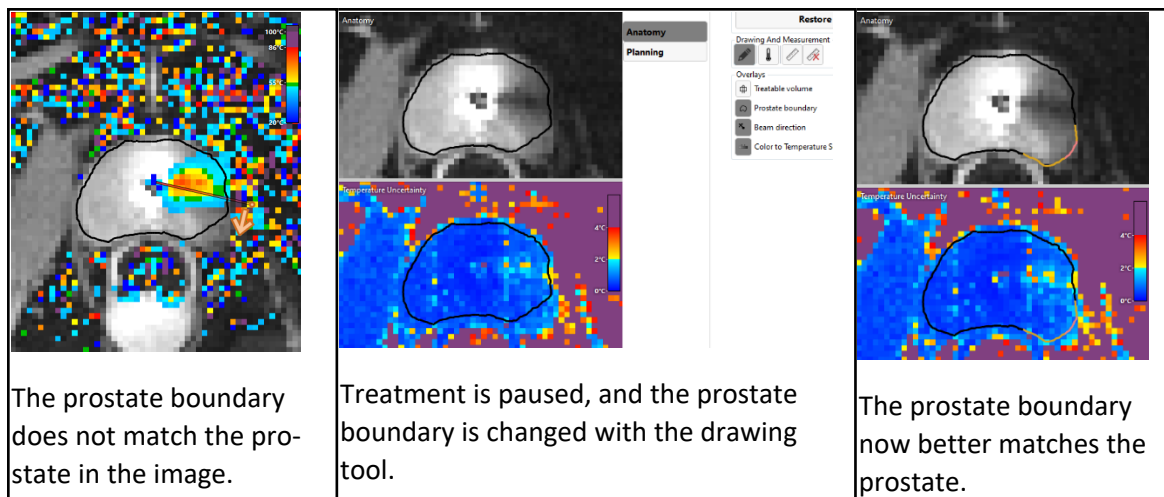

Figure 57: Editing the prostate boundary
3. Click the drawing tool. The TDC displays a new pane showing the prostate boundary contour and the temperature uncertainty for the selected slice (*Figure 57*).